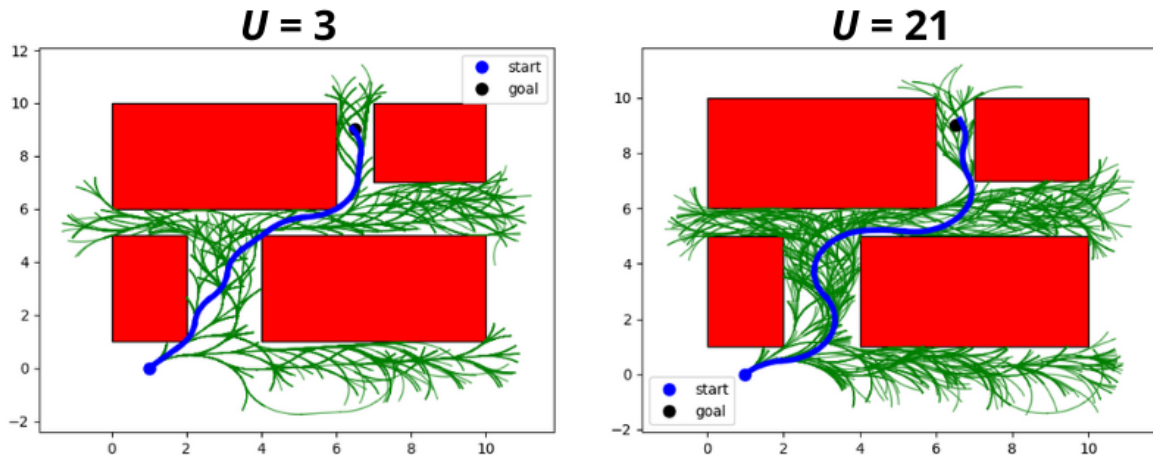

Figure 15: Effect of control discretization. Left: $|U| = 3$, Right: $|U| = 21$. Finer discretization improves reachability but increases complexity.
- Figure 15 illustrates the effect.